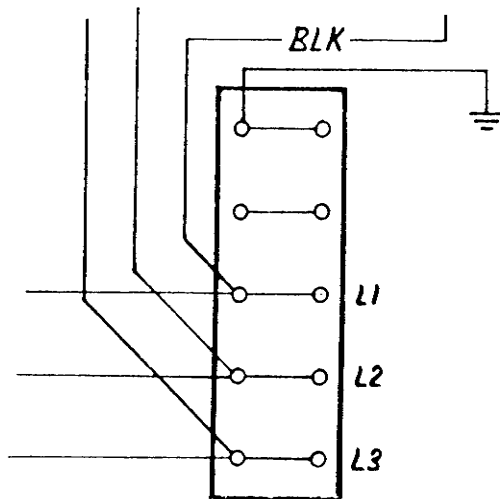

Figure 7. Connecting Permanent Wiring
- A. Connect freezer to a properly grounded 208/230 volt (AC), source of electricity.
- C. For proper electrical connections, refer to Figure 7.